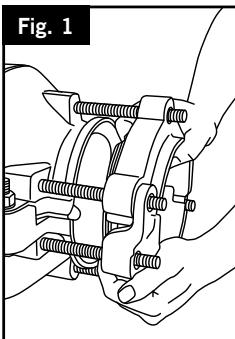

Fig. 1
1) Place the EasiFit on a clean surface for disassembly. Remove the nuts and washers from the studs on both ends; this allows the End Rings and split gaskets to be removed. Place all components to the side and retain. (FIG 1)